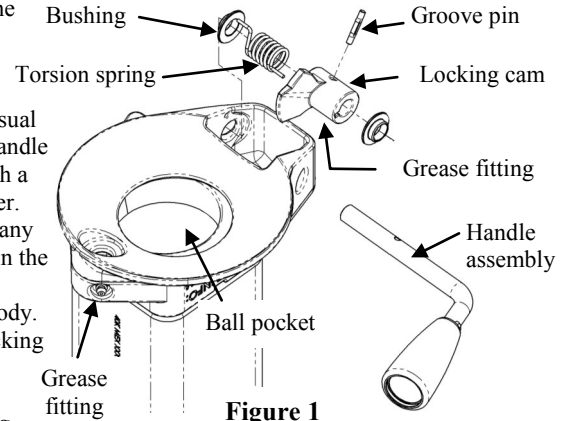

Figure 1
1. Support the coupler from dropping before loosening pinch bolts. Remove pinch bolts and lower coupler assembly from the trailer. With ball pocket facing up (Fig. 1), take visual note of the parts and their orientation, paying particular attention to the function of the handle and locking cam. Rotate handle exposing the groove pin. With a punch, remove the groove pin and slide handle from the coupler. Remove and discard all old parts. **DO NOT** reassemble using any previously existing parts - only use components supplied within the parts kit.